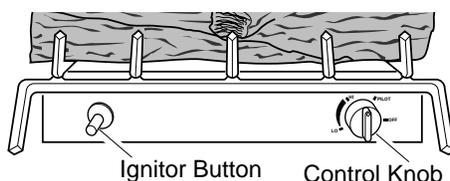

Figure 38 - Control Knob and Ignitor Button Location
- Wait five (5) minutes to clear out any gas. Then smell for gas, including near the floor. If you smell gas, **STOP!** Follow "B" in the safety information above. If you don't smell gas, go to the next step.
- Slightly depress and turn control knob counterclockwise  to the PILOT position. Press in control knob for five (5) seconds (see Figure 38).